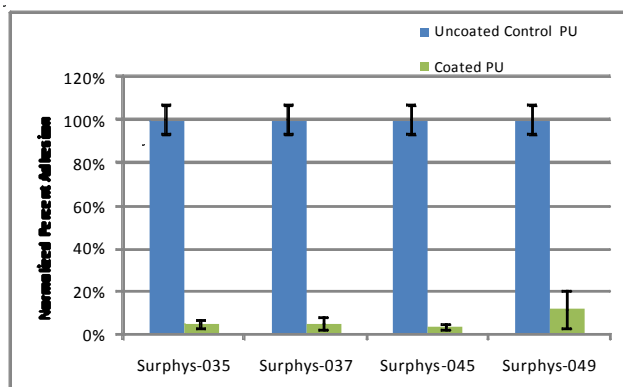

Figure 2: *S. aureus* attachment on uncoated and coated DUWL PU surfaces.
attachment on DUWL polyurethane (PU) tubing, with reductions of 90% or greater compared to control surfaces (Figure 2).